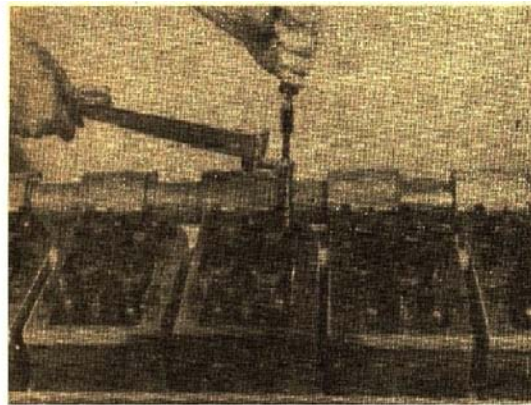

Fig. 14-57 Tighten the valve crosshead and torque it
4. Use the ST-669 Torque Wrench Adapter to hold the adjusting screw in position. Then tighten the locknut to 22 to 26 Ft-lbs (30 to 35 Nom) torque. Fig. 14-57. If